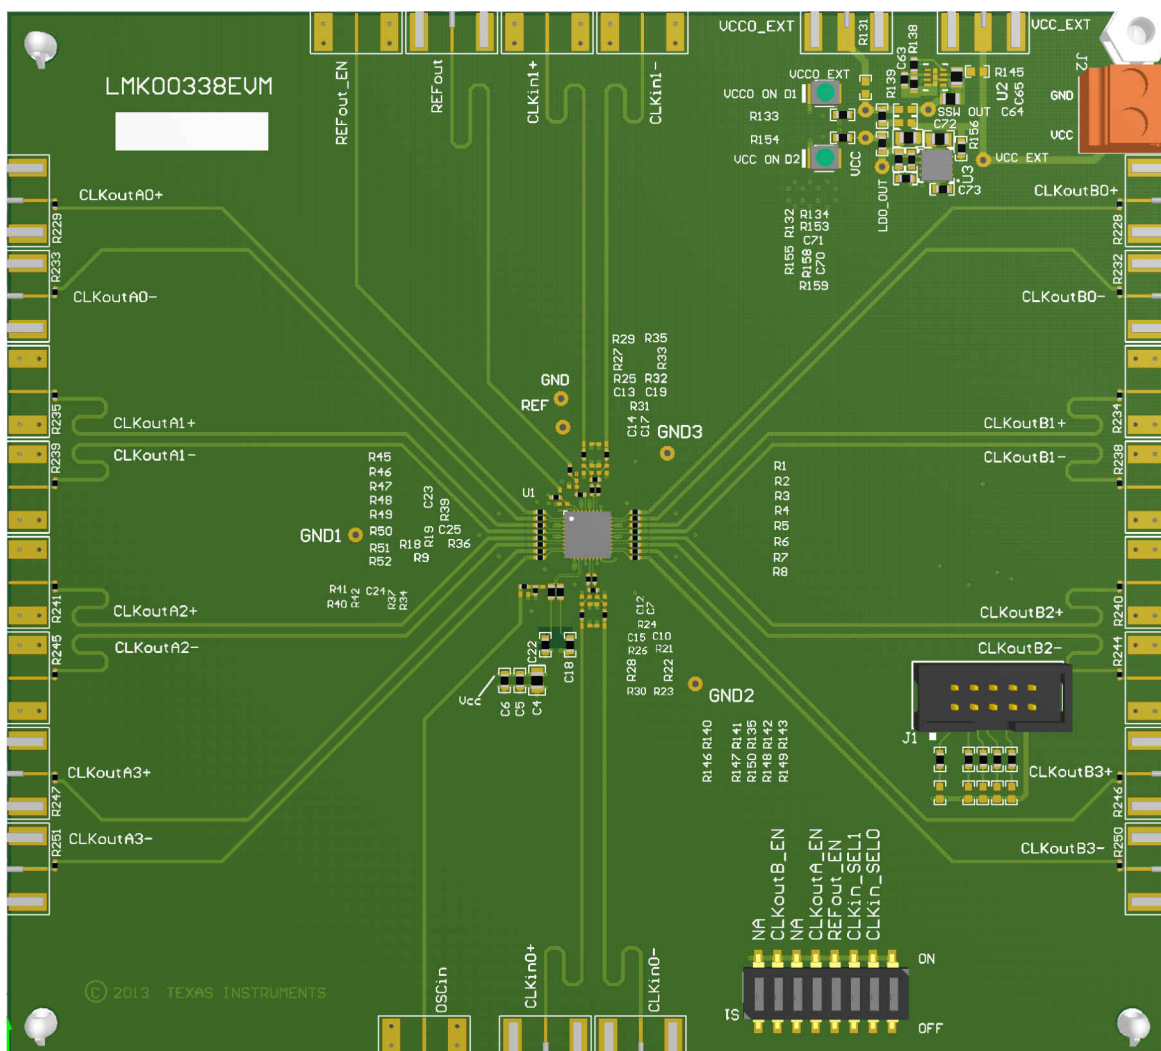

图 11-1. LMK00334 Layout Example
- For DC-coupled operation of an HCSL driver, terminate with 50 Ω to ground near the driver output as shown in Figure 11-1.